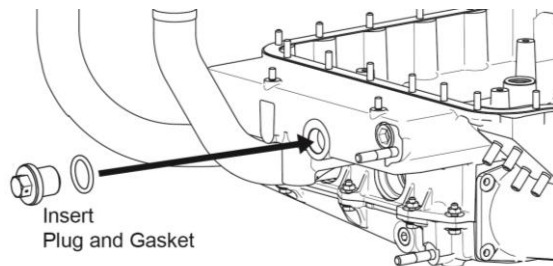

Figure 2
6. Install the plug and gasket (P/N 06E19769-1.00) in the threaded hole where the oil sump suction screen assembly was removed (Figure 2).